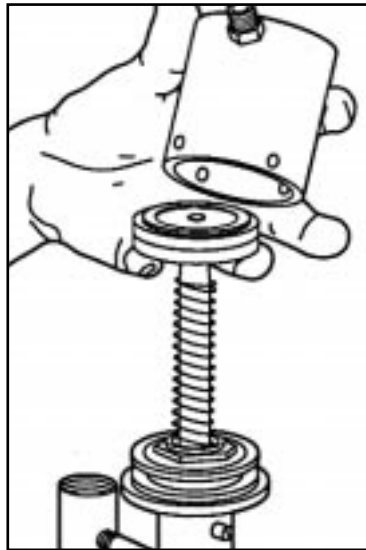

Figure 41
3. Remove the piston plunger assembly and motor return spring, and then remove the piston U-cup from the piston. (Fig.41 & 42)